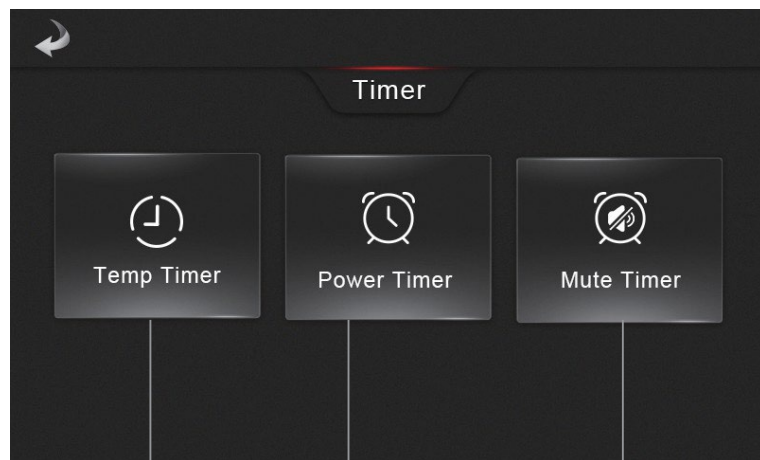
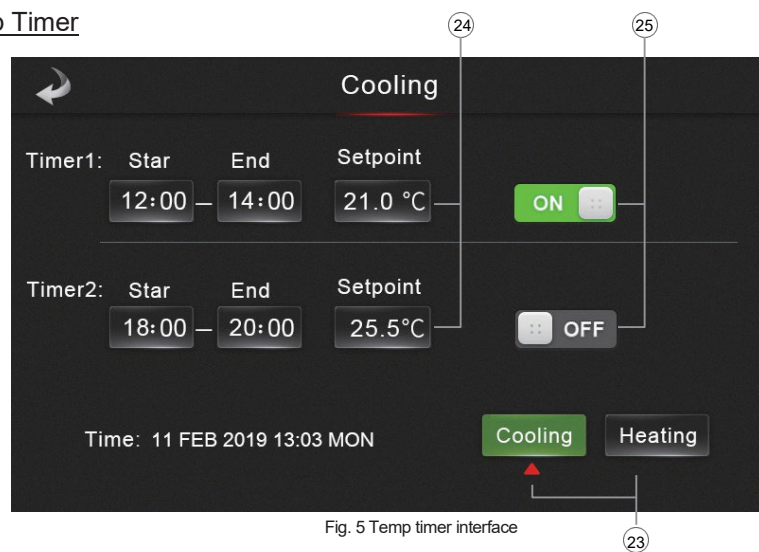
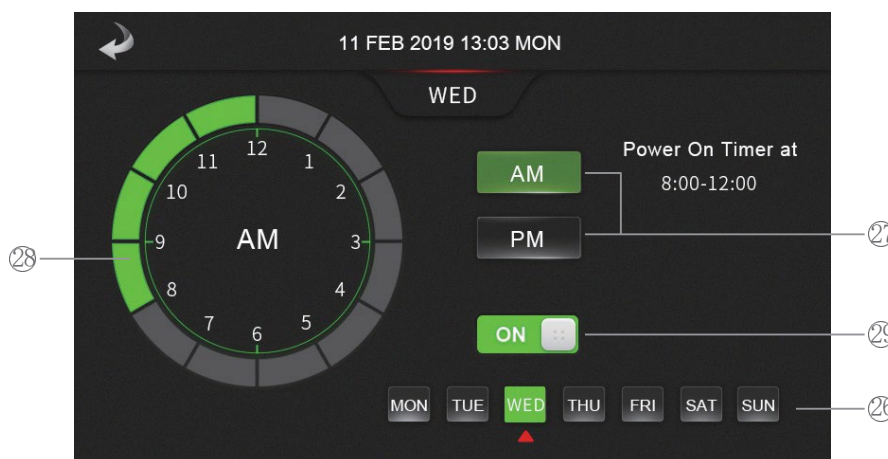

Fig. 4 Timer interface
Fig. 5 Temp timer interface
Fig. 6 Power timer interface
2. Subsequently, press the Temp Timer button labeled "20" (refer to Fig. 4), which will navigate to the Temp Timer interface (refer to Fig. 5).
2. Next, press the Power Timer button labeled "21" (refer to Fig. 4), which will navigate to the Power Timer interface (refer to Fig. 6).
2. Then, press the Mute Timer button labeled "22" (refer to Fig. 4), which will navigate to the Mute Timer interface.